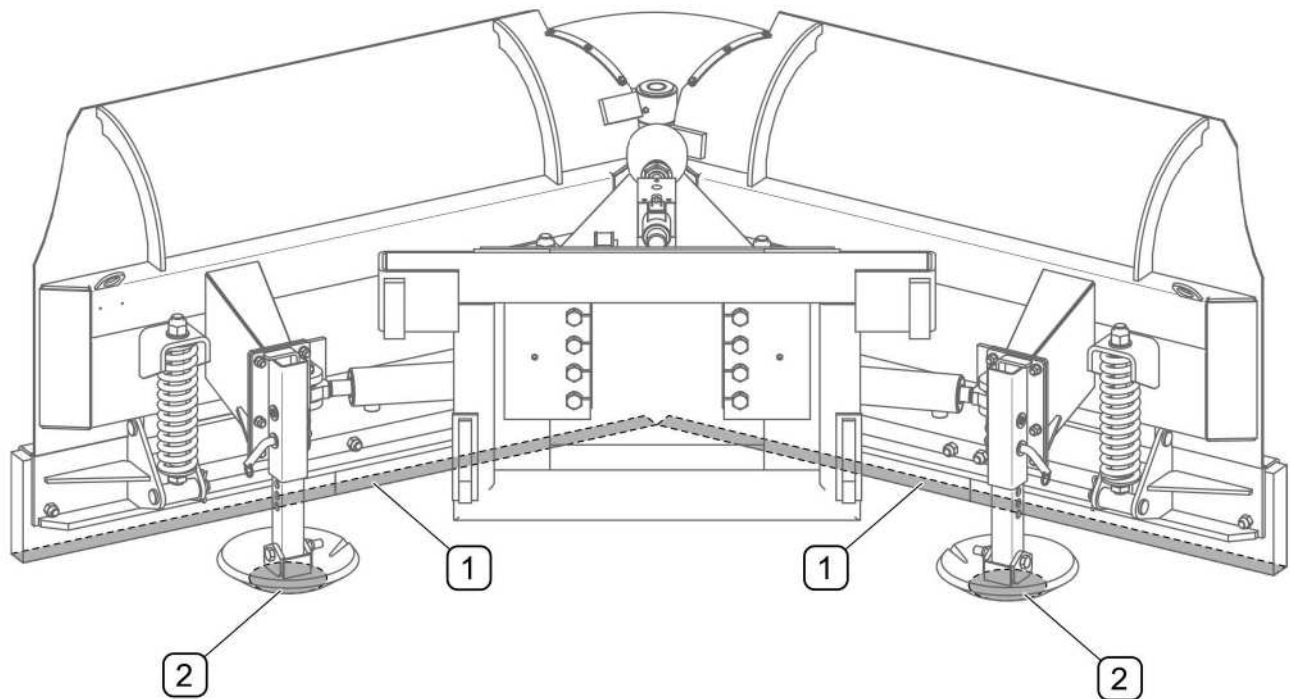

FIGURE 4.10 Plough position when disconnected from the carrying vehicle
- position plough so that blades are folded to the rear. (FIGURE 4.10)
- After disconnecting from carrying vehicle, plough should rest on the ground leaning against collecting strips (1) and slides (2) or wheels (optional) (FIGURE 4.10)